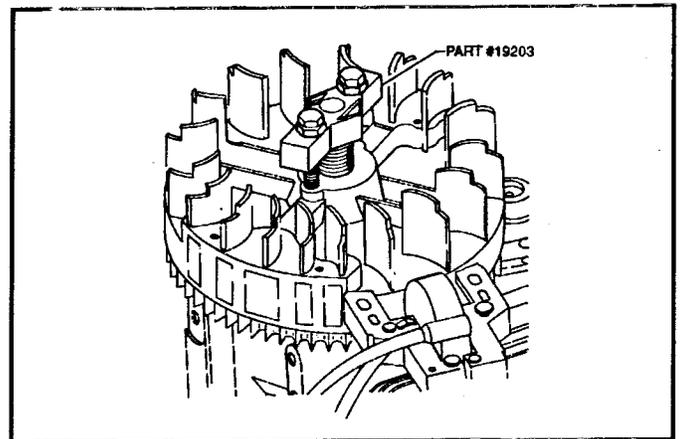

Figure 51
3. Install Briggs and Stratton flywheel puller 19203 as shown in Figure 51 and remove the flywheel. The holes in the flywheel are not tapped and require the use of the self tapping screws included with the flywheel puller. Alternately tighten the screws on the puller until the flywheel breaks loose.